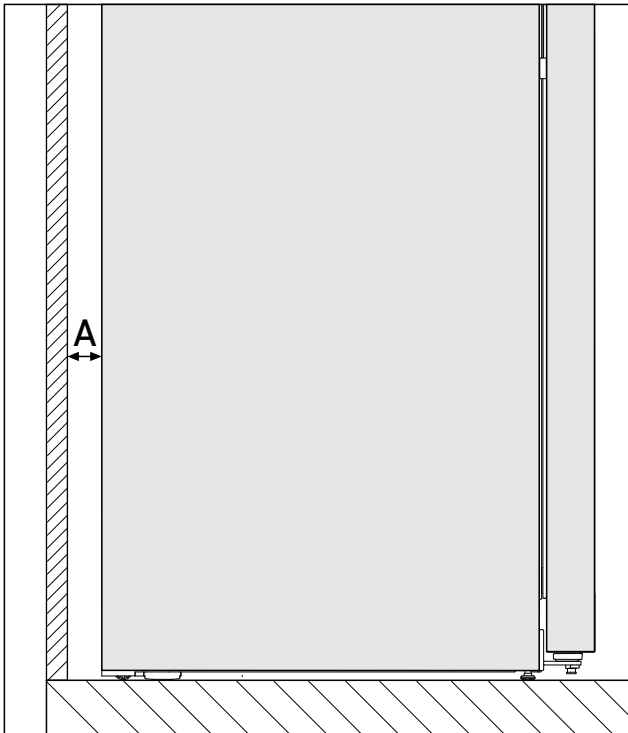

Fig. 3 *
The energy consumption has been determined with a gap of Fig. 3 (A) between the rear of the appliance and the wall. If the wall gap is less than Fig. 3 (A), this does not affect the appliance's operability but the energy consumption does increase slightly at a smaller wall gap.